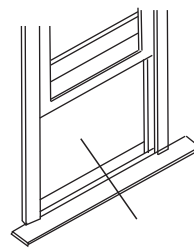

Fig.11
- Insert washer head locking 7/16" screws (2) into holes in top leg of filler panel frame (see step 6). Do not totally tighten. Allow leg to slide freely. Screws will be tightened after section 6.
- Open window and mark center of window inner sill as shown (Fig.11).